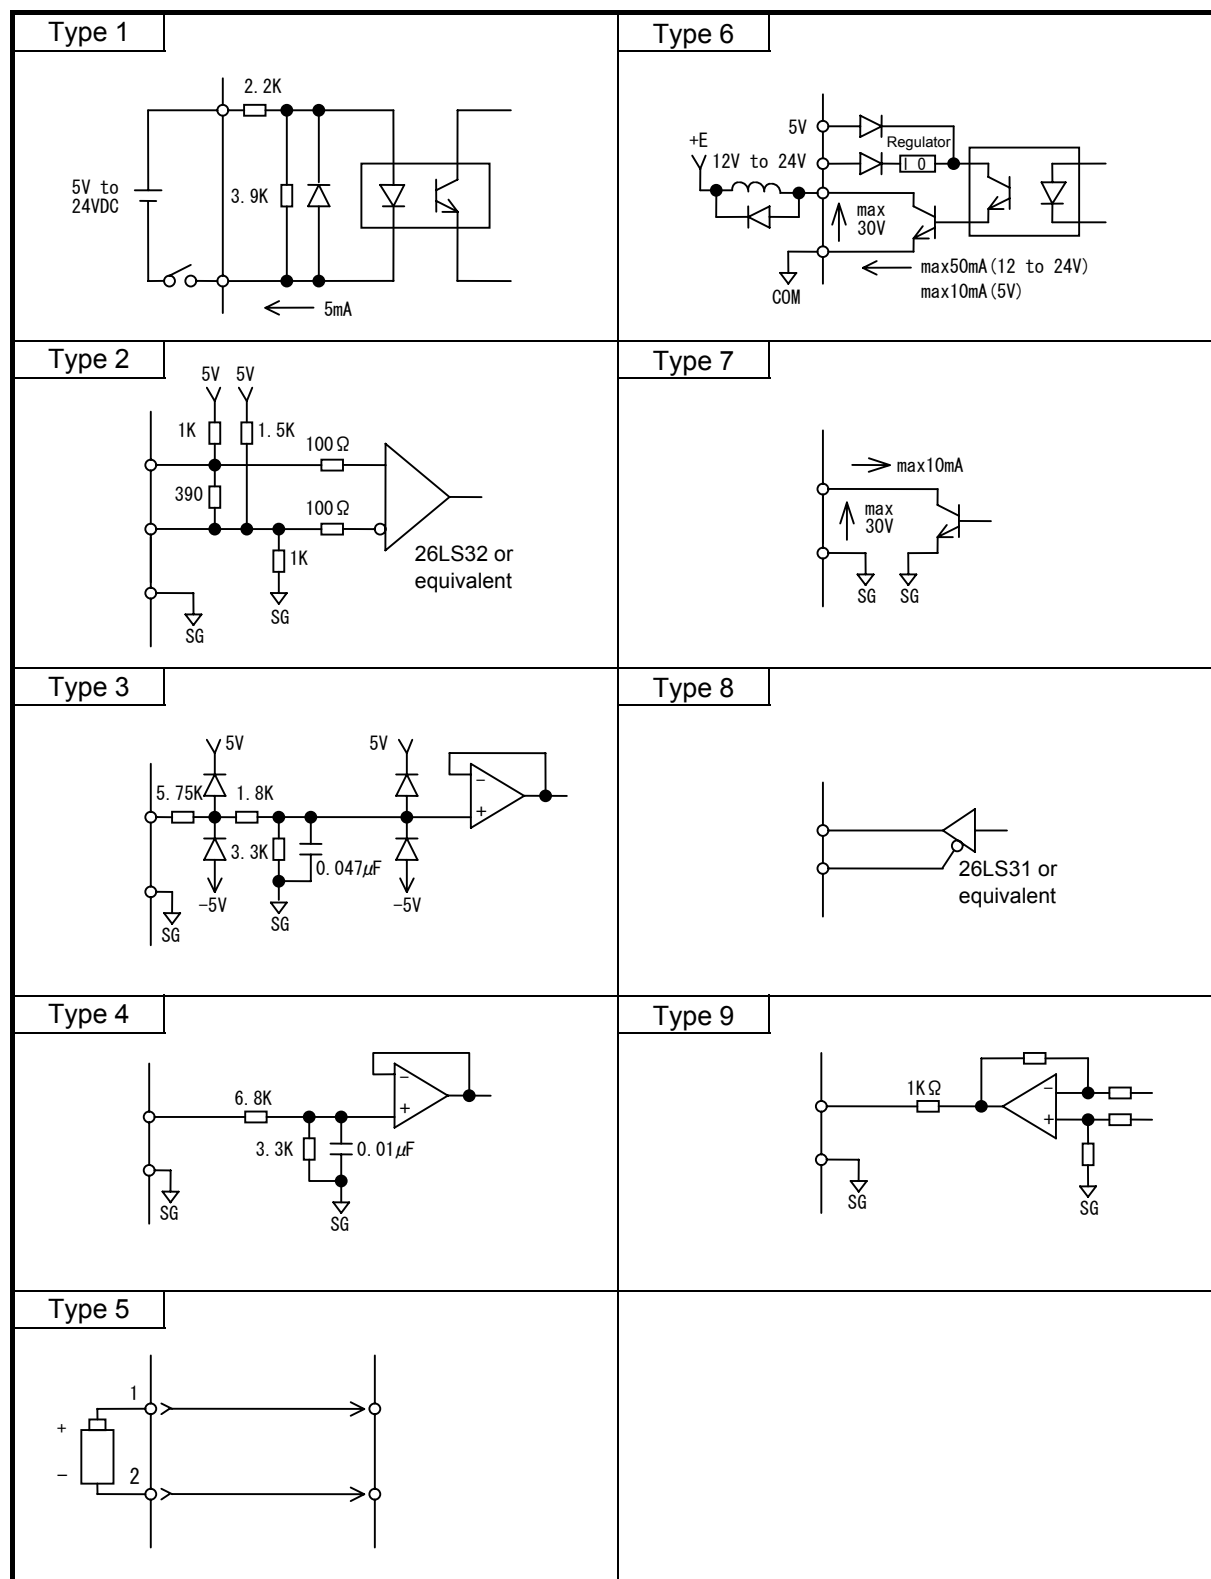

Fig. 9-16
This section explains the general specifications of CN1 input/output signals of the position control type. Fig. 9-16 shows the circuit types of CN1 input/output signals and Tables 9-6 and 9-7 describe the general specifications.
*2 For the circuit type, see Fig. 9-16.